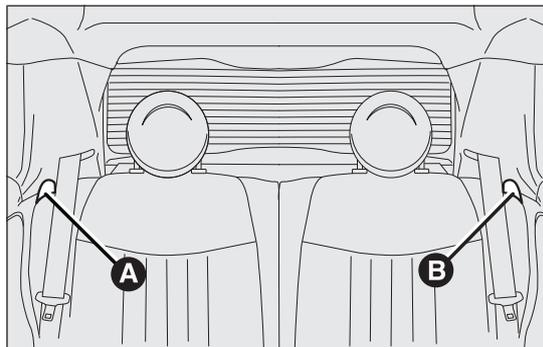

fig. 57
- operate lever A fig. 57 or B to release the left hand or right hand part of the backrest respectively and fold it down onto the cushion.
- operate the levers A fig. 57 and B to release the backrests and guide them down onto the cushion.